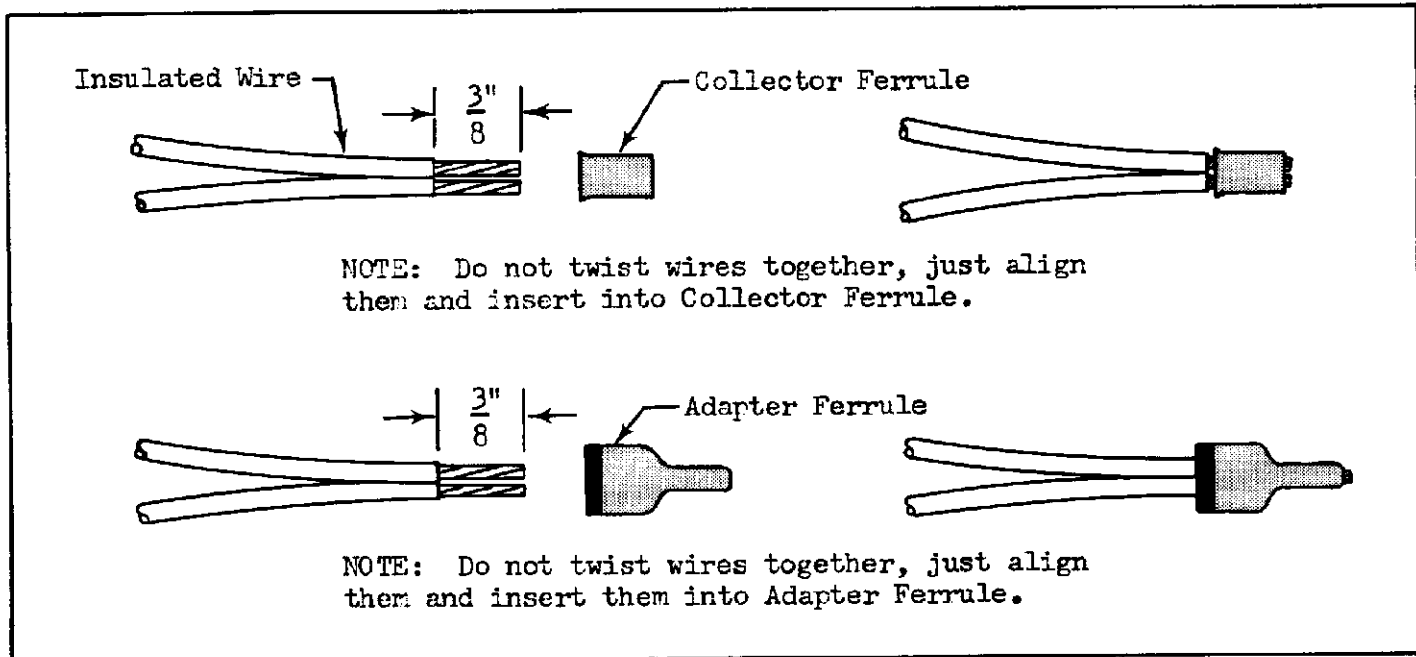

FIG. 3
- (c) Collector Ferrule..The Sleeve used to tie the Conductors together before inserting wires into Splice. This Sleeve increases the Conductor area of Splice only. See Figure 3.
- (d) Adapter Ferrule....The Adapter used to increase the mass of the Conductor and Insulation areas of the Splice. See Figure 3.
- (e) Multi-Splicing.....When three (3) or more wires are to be connected into (1) Butt Splice.
- (a) Strip wire as shown in Figure 3.
(b) Apply the Collector Ferrule and/or Adapter Ferrules to the wire as shown in Figure 3.